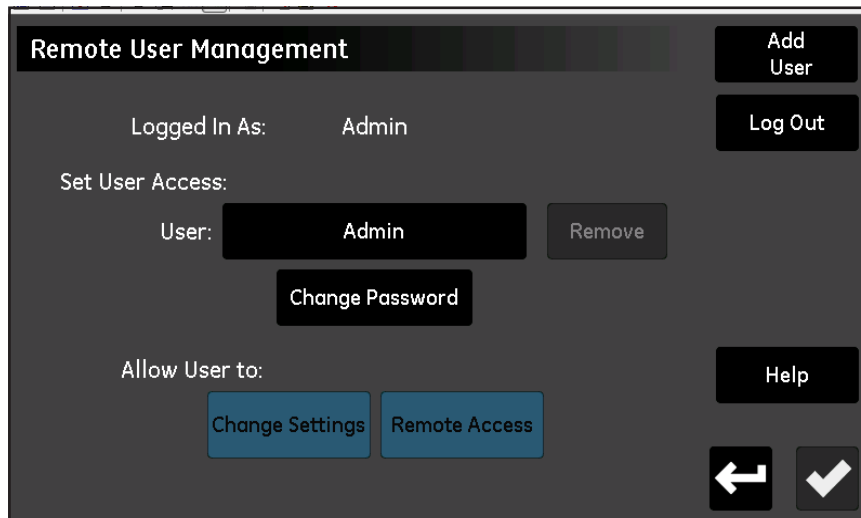

Figure 71: Web User Management Screen
Enter your password and tap the **Log In** button. On a successful login, the *Web User Management* screen shown in *Figure 71* below is opened.
The **Operator** password should be changed at the earliest opportunity. The steps for changing the **Operator** password are the same as for changing the **Admin** password (see previous section). Select the **Operator** account from the *Web User Management* screen (see *Figure 71 on page 80*), then enter and confirm the new password.
4. Tap the **Log In** button to open the *Remote User Management* screen (see *Figure 71 on page 80*).